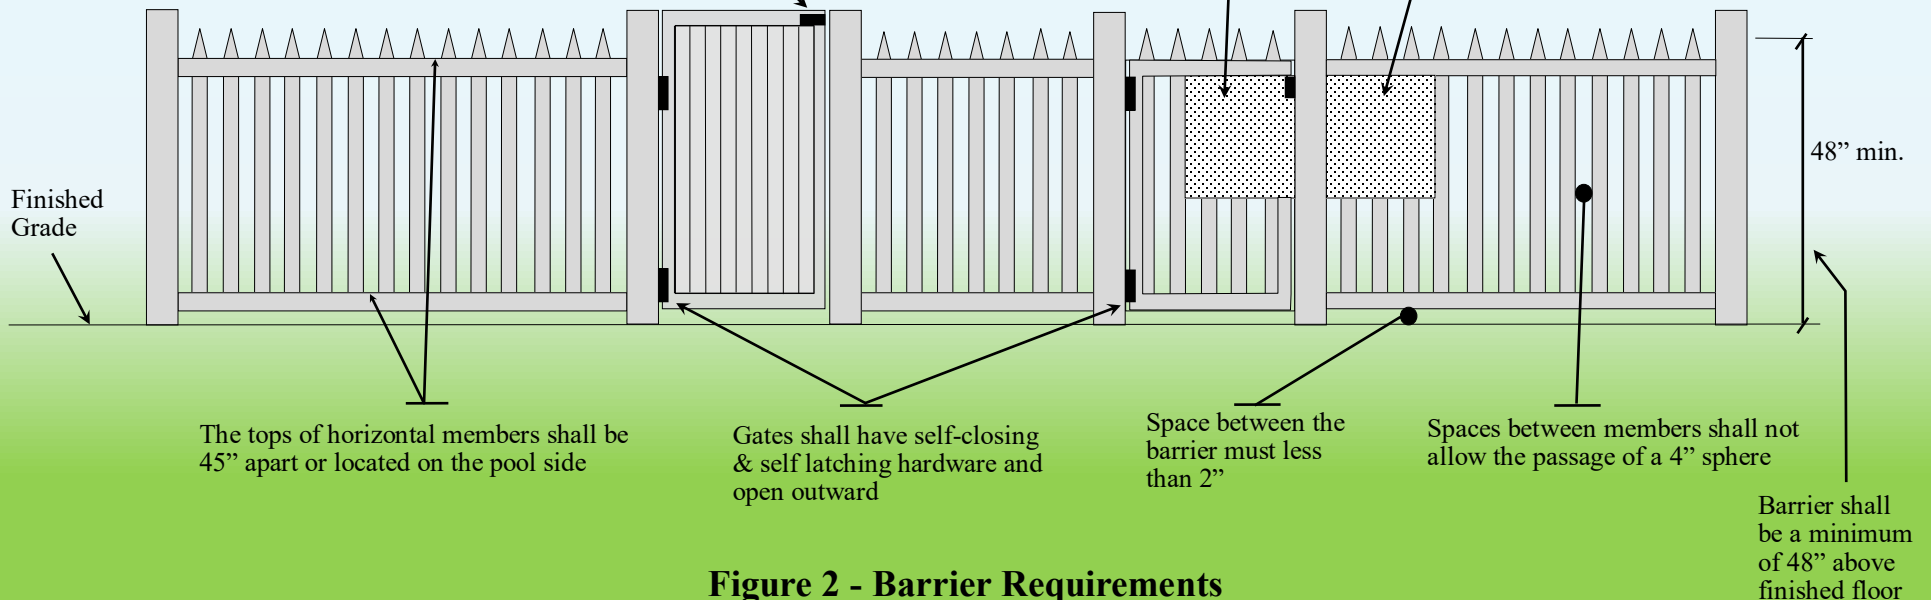
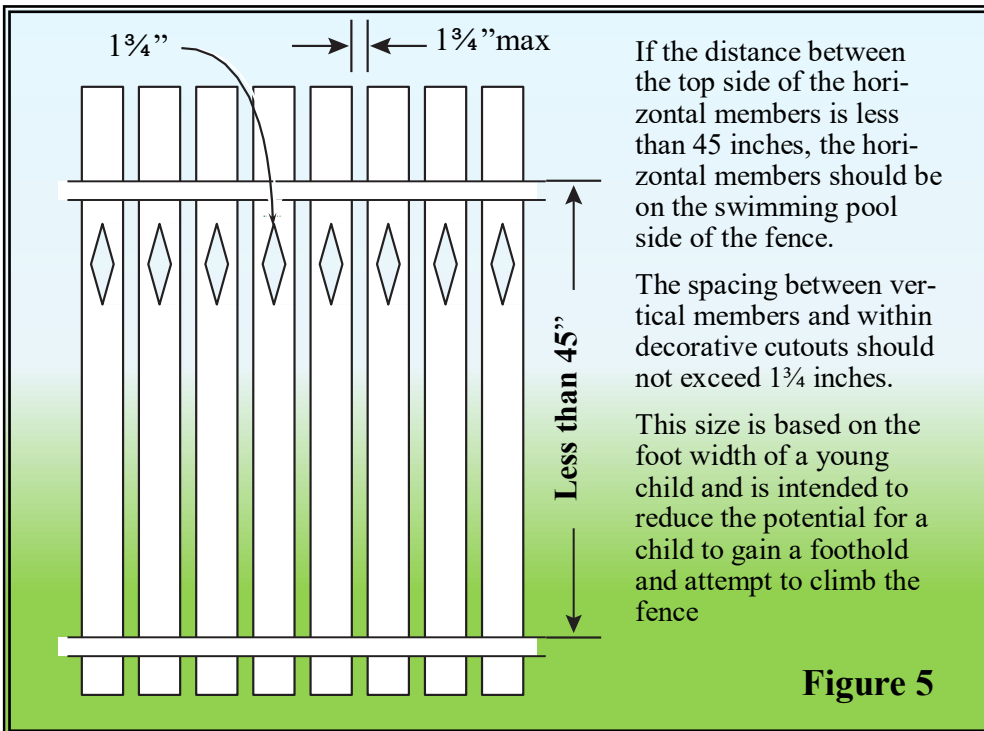

Figure 2 - Barrier Requirements
Figure 5
1. Barrier height and clearances: The top of the barrier shall be at least 48 inches above grade measured on the side of the barrier which faces away from the swimming pool. The maximum vertical clearance between grade and the bottom of the barrier shall be 2 inches (51 mm) measured on the side of the barrier which faces away from the swimming pool. Where the top of the pool structure is above grade, such as an above-ground pool, the barrier may be at ground level, such as the pool structure, or mounted on top of the pool structure. Where the barrier is mounted on top of the pool structure, the maximum vertical clearance between the top of the pool structure and the bottom of the barrier shall be 4 inches (102 mm). (See Figures 2 and 4)
2. Openings: Openings in the barrier shall not allow passage of a 4-inch-diameter (102 mm) sphere. (See Figure 2)
3. Closely spaced horizontal members: Where the barrier is composed of horizontal and vertical members and the distance between the tops of the horizontal members is **less than 45 inches**, the horizontal members shall be located on the swimming pool side of the fence. Spacing between vertical members shall not exceed 1 3/4 inches in width (See Figures 2, 4, & 6). Where there are decorative cutouts within vertical members, spacing within the cutouts shall not exceed 1 3/4 inches in width (See Figures 5 and 6).
Where the barrier is composed of horizontal and vertical members and the distance between the tops of the horizontal members is 45 inches or more, spacing between vertical members shall be not greater than 4 inches (See Figures 2, 4 and 6).. Where there are decorative cutouts within vertical members, spacing within the cutouts shall not exceed 1 3/4 inches (44 mm) in width. (See Figures 5 and 6).
Access gates shall comply with the requirements for a barrier and will be equipped to accommodate a locking device. Pedestrian access gates shall open outwards away from the pool and shall be both **self-closing** and **self-latching**. (See Figures 2, 7 and 9)